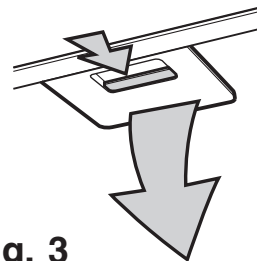

Fig. 3
- Push it towards the back of the unit and then pull it down and out. **Fig. 3.**